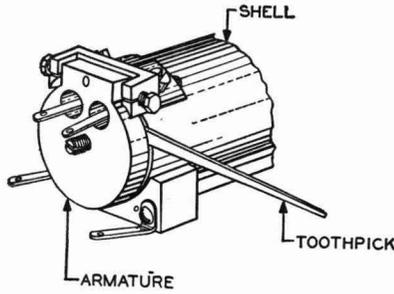

Fig. 6—Blocking 44-type Relays Nonoperated
3.08 **44-type Relays and 22-, 35-, and 56-type Drops:** Fig. 6—Block this apparatus nonoperated by inserting a toothpick between the armature and the frame or shell.